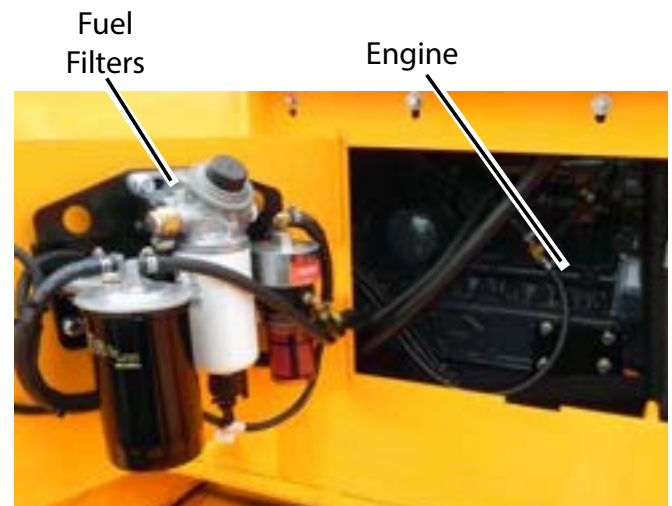

Figure 5-17. Fuel Filters, Pump and Water Separator
The fuel filter, water separator and fuel pump with bowl filter are conveniently located together on the engine access door in the hopper. **(Figure 5-17)**
4. Use a filter removal wrench to loosen and remove the filter by turning it clockwise. **(Figure 5-17)**